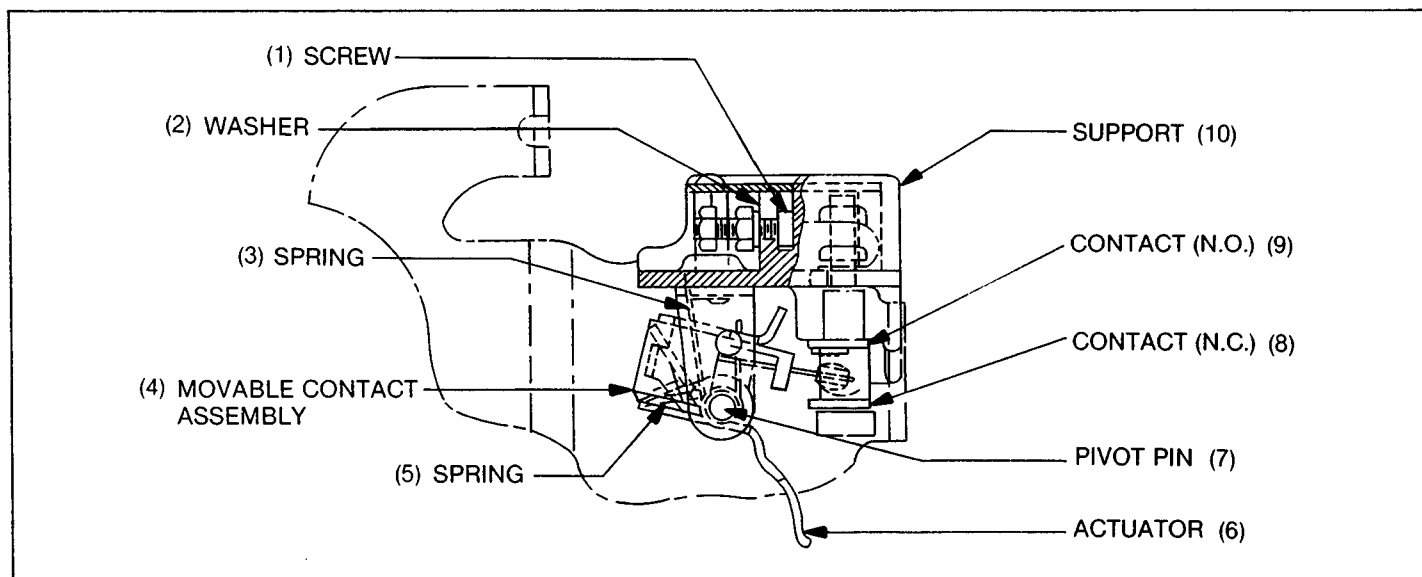

Fig. 9. Cut-off switch
### Cutoff Switch (Fig. 9)
The switch is operated by the movement of a mechanism link against the switch actuator (6), Fig. 9. This causes the